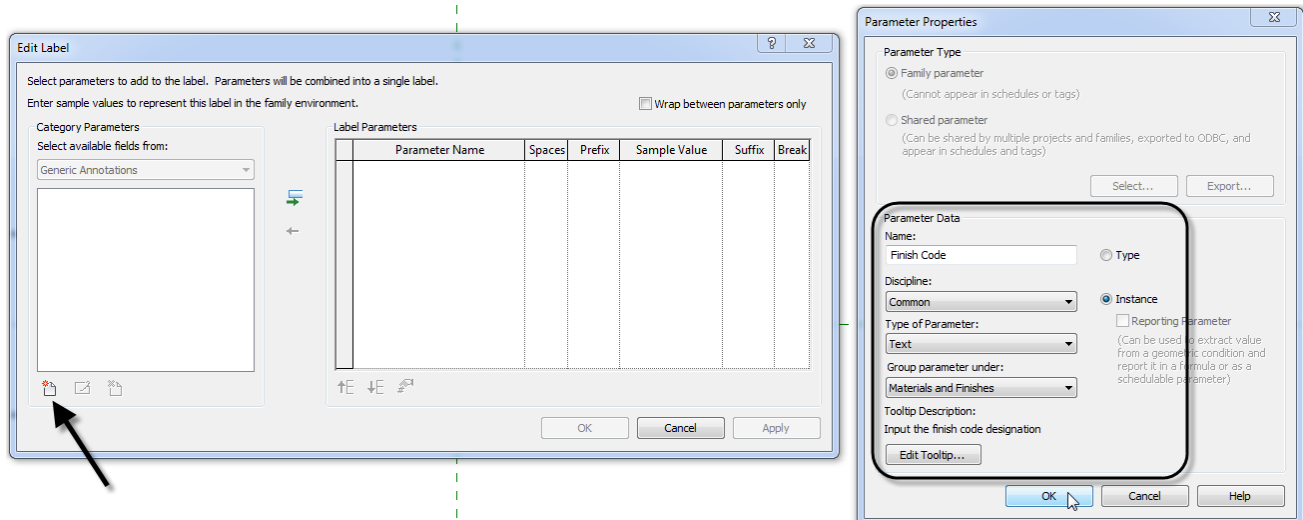

FIGURE 20 – CREATE A PARAMETER FOR THE FINISH CODE DESIGNATION
6. Click OK to create the parameter (see Figure 20).